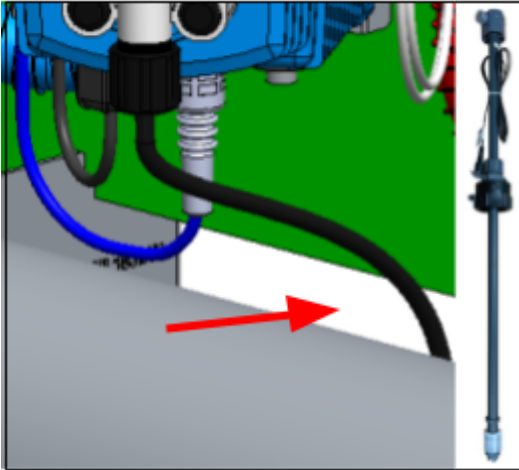

Figure 34.
- a. Route the suction hose behind the mixing tank to prevent kinks or obstructions (see Figure 34).
- b. Figure 34 shows both the dry-run protection and the correct route of the suction lance